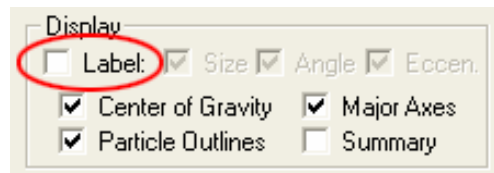

Figure 6
4. Click the Label field, located in the **Display** frame, to uncheck it (Figure 6).